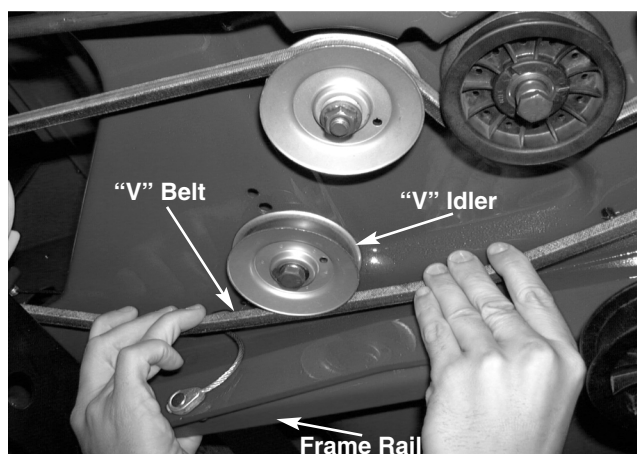

FIGURE 4.
11. Grasp the left frame rail and "V" belt on both sides of the "V" idler. See figure 4.